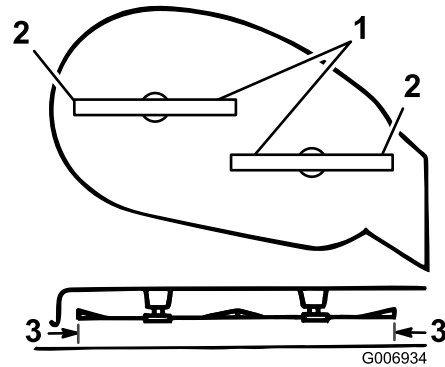

Figure 36
- Carefully rotate the blades side to side (Figure 36).
- Measure between the outside cutting edges and the flat surface (Figure 36). If both measurements are not within 3/16 inch (5 mm), adjust them; continue this procedure.